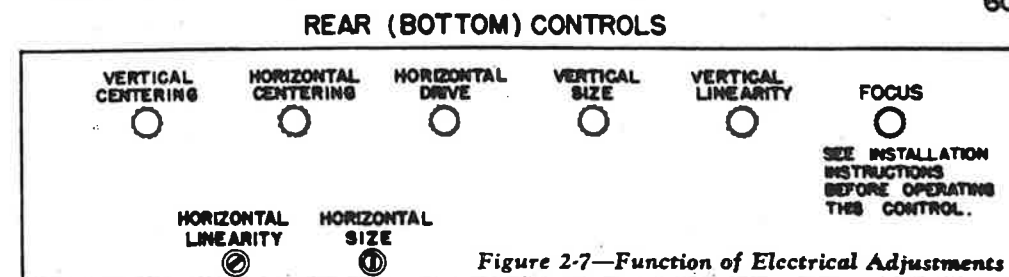

Figure 2-7—Function of Electrical Adjustments
- 3) Remove the two wing nuts which fasten the front panel in place. These are reached from the rear of the cabinet and permit the panel to swing free on its hinges. The electrical adjustments at the bottom of the chassis can then be reached from the front. (See figure 2-6 for the location and figure 2-7 for the function of these controls).